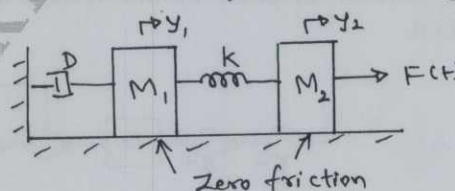

Fig.Q10(c)
- c. Obtain the state equation for the mechanical system shown in Fig.Q10(c).